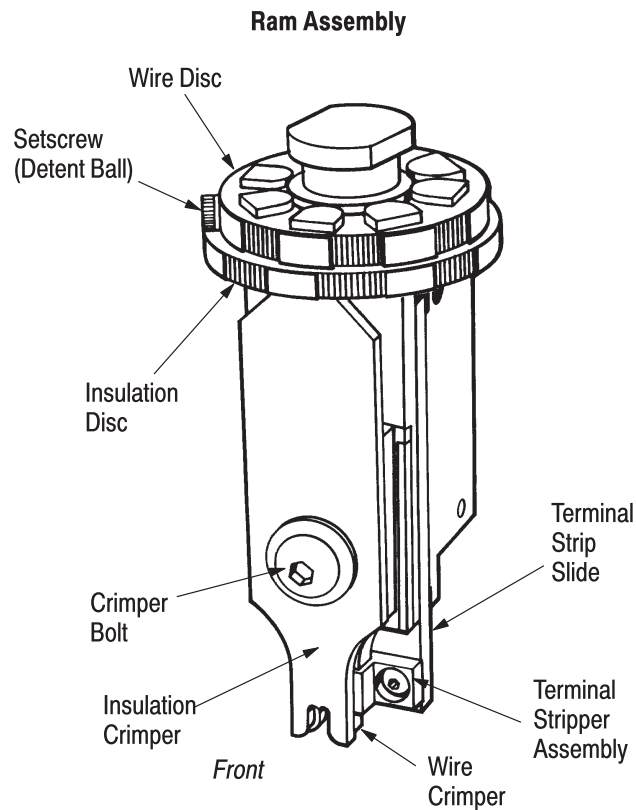

Figure 9
4.7. Insulation Crimp Adjustment (Figure 9)